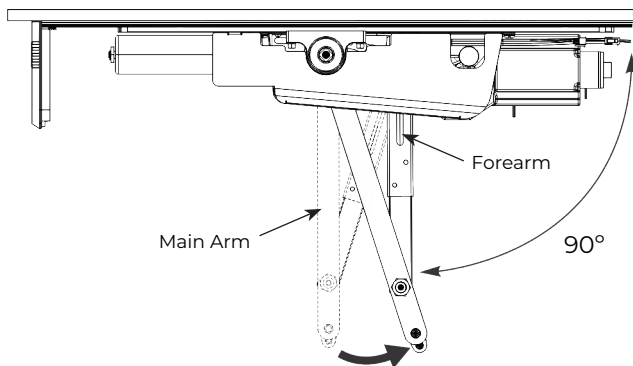

Figure 24 View from ceiling looking downward
5. With door closed, rotate main arm away from hinge until forearm is perpendicular (90 degrees) with door. (Figure 24)